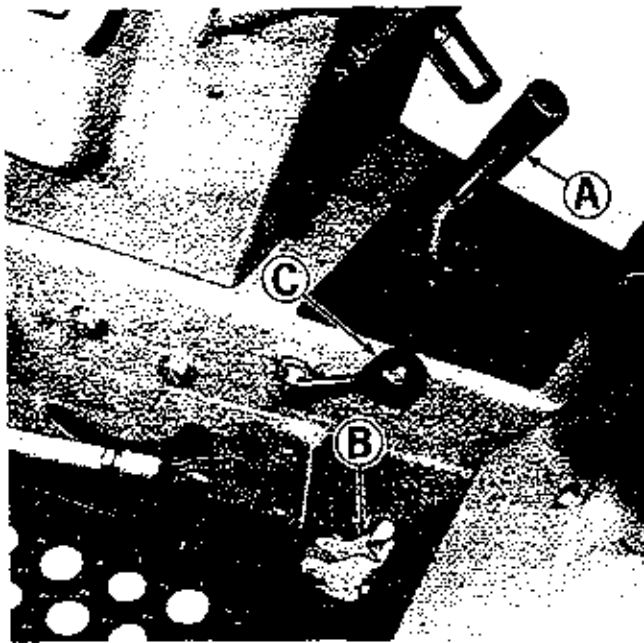

Figure 2. Controls seen from left side of tractor.
**TRANSMISSION SHIFT LEVER:** (Figure 2, item A) The transmission shift lever is used to select the desired transmission gear. There are four drive positions. Using the shuttle drive unit, the tractor will move either forward or reverse in any of the gears. The approximate ground speed in miles per hour for each gear at full engine speed (3600 RPM) both forward and reverse are shown below:
**PARKING BRAKE LOCK:** (Figure 2, item B) To lock the parking brake, grasp the lock and pull it upward and back until the handle rests against the footrest as shown in figure 2. To release pull the top portion away from the footrest and down. It should be locked in the up position to prevent the tractor from rolling whenever the operator leaves the tractor seat. Remember to release the parking brake before driving the tractor.
**POWER TAKE OFF CONTROL LEVER:** (Figure 2, item C) This lever controls power to center or rear mounted attachments such as a mower or rotary tiller. Pull the lever up and move it forward until it snaps over center to engage the power take off. Pull it back and down to disengage. Always move the power take off control lever all the way to the disengaged or engaged position. The tractor engine should be running at 1/2 to full engine speed when the power take off is engaged to absorb the added load. **CAUTION: ALWAYS DISENGAGE THE POWER TAKE OFF, AND WAIT UNTIL ALL ATTACHMENTS HAVE STOPPED MOVING BEFORE LEAVING THE TRACTOR SEAT.** The power take off control lever must be disengaged before the engine will start.